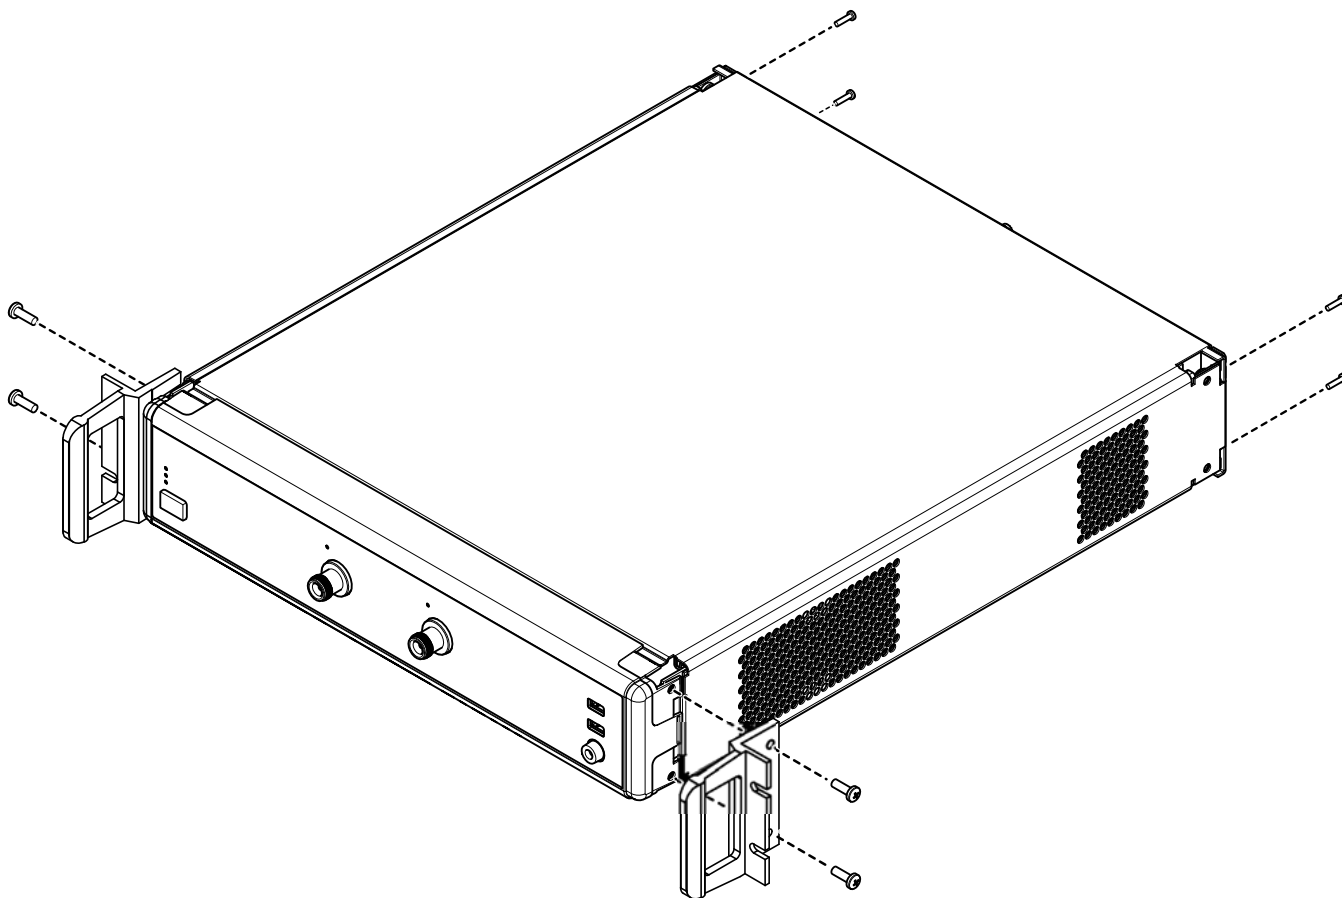

Figure B-2. Attaching Rack Mount Brackets to the Instrument
4. Install the rack mount brackets onto the instrument sides using the green-headed M5 x 15 mm screws removed earlier (see Figure B-2)